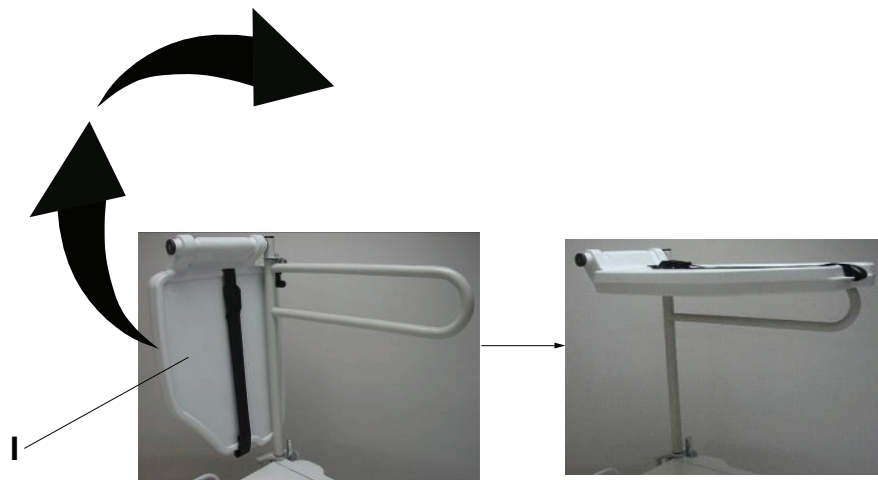

Figure 115 – Flipping up the monitor tray
3. Grasp the bottom of the monitor tray and flip it up onto the tray support pole (I) (Figure 115).